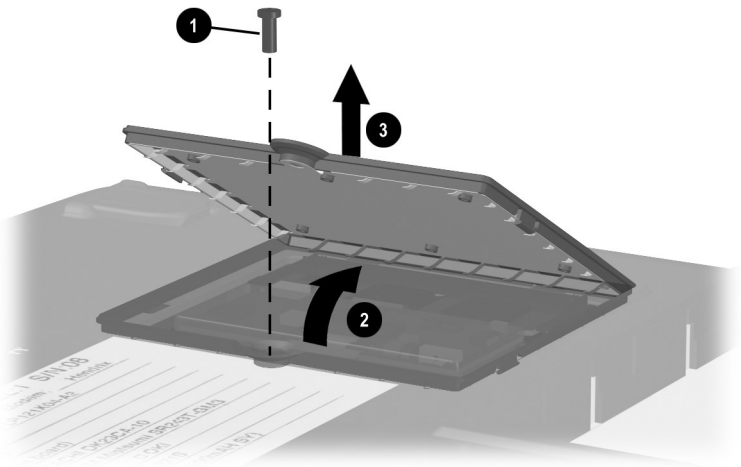

Figure 5-11. Removing the Mini PCI Communications Slot Cover
3. Remove the black PM2.0 × 5.0 screw ❶ that secures the mini PCI communications slot cover to the base enclosure (Figure 5-11).
4. Swing the left side of the cover up and to the right until it rests at an angle ❷.
5. Lift the cover straight up and remove it ❸.